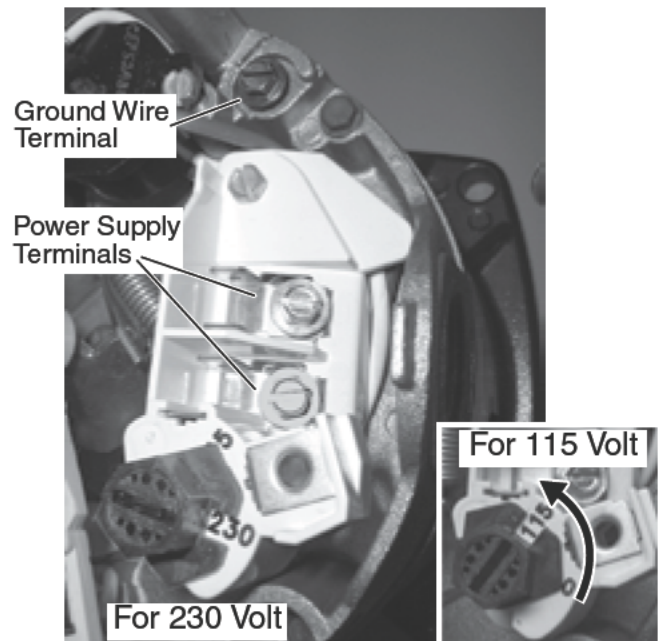

Figure 4 - Voltage set to 230 volts, Dial Type; turn dial to select 115 volts. Insert tool in slot to turn dial.
Your motor terminal board (located under the motor end cover) should look like Figure 4.
Step 7. Connect current carrying conductors to terminals L1 and L2 under motor canopy. When replacing motor, check wiring diagram on motor nameplate against Figure 4. If the motor wiring diagram does not match Figure 4, follow the diagram on the motor.
NOTICE 115/230 Volt single phase models are shipped from factory with motor wired for 230 volts. If power supply is 115 volts, remove motor canopy and change switch dial on motor as shown in Figure 4. Do not try to run motor as received on 115 volt current.